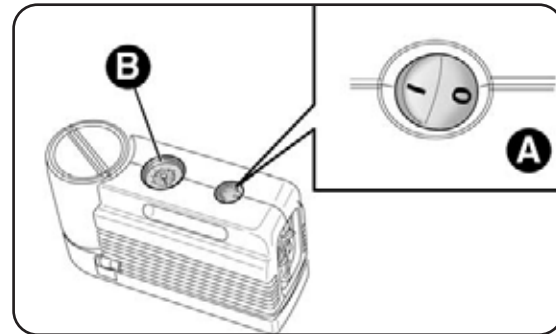
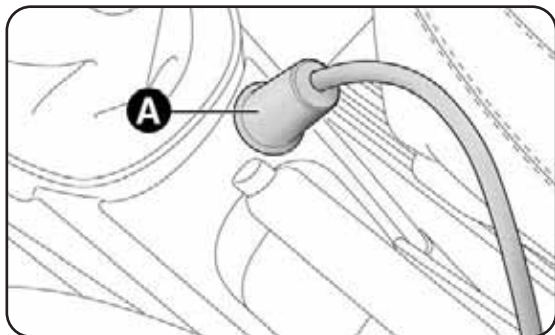

fig. 17
fig. 18
- make sure that switch A-fig. 17 on the compressor is in position 0 (off), start the motor, insert pin A-fig. 18 into the current socket/cigar lighter on the central tunnel and switch on the compressor by placing switch A-fig. 17 in position I (on);
- inflate the tyre to the pressure shown in the paragraph entitled "Wheels" in chapter 6. In order to obtain a precise reading, check the pressure on pressure gauge B-fig. 17 with the compressor off;